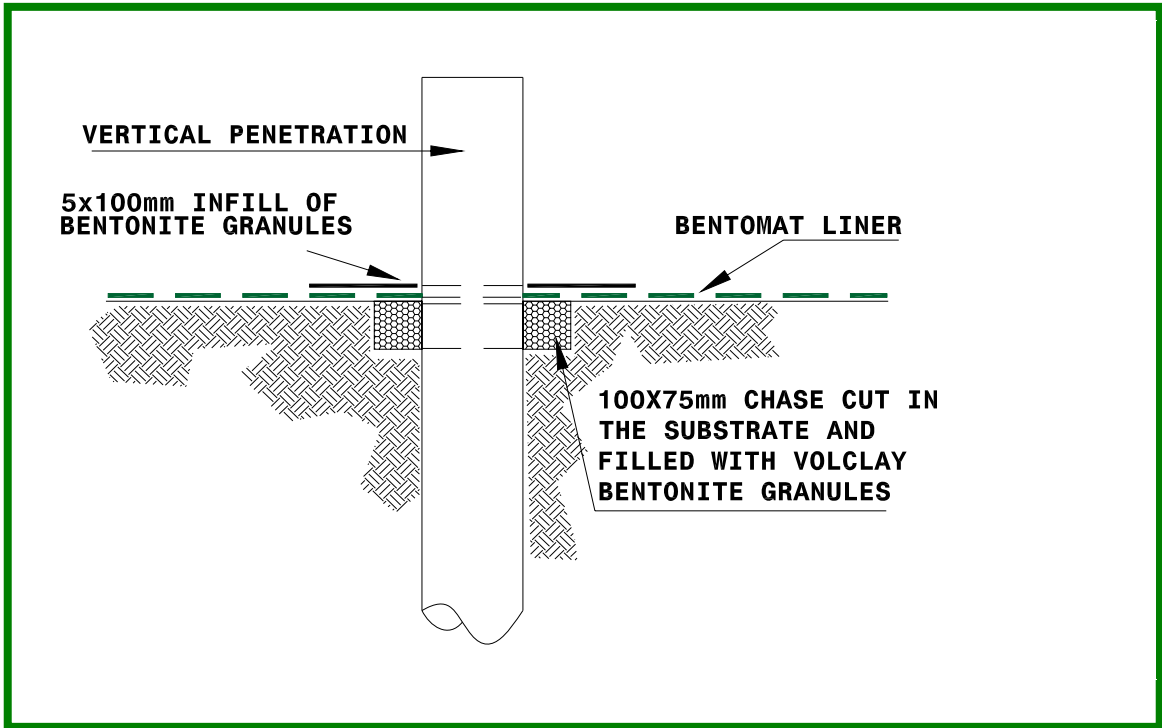
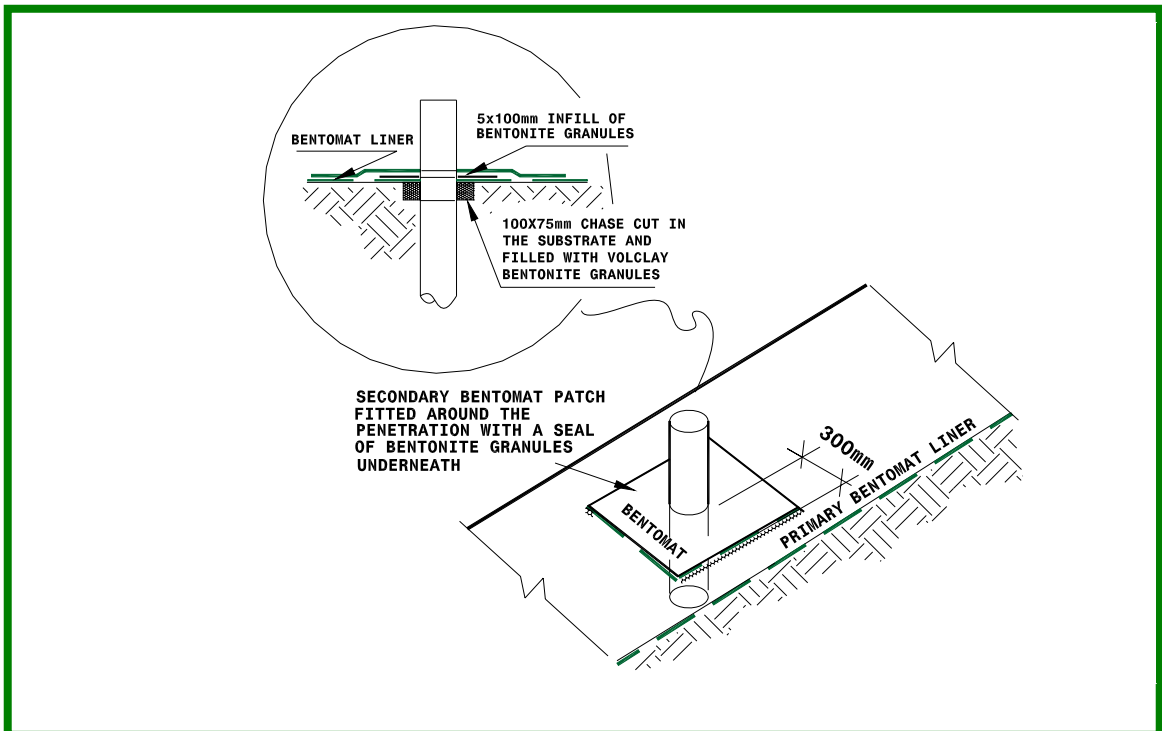

Figure 5a. Cross-section of a vertical penetration.
Figure 5b. Isometric view of completed vertical penetration.
- 8.5 Vertical penetrations are prepared by notching into the subgrade as shown in Figure 5a. The penetration is completed with two separate pieces of GCL as shown in Figure 5b. A secondary collar is optional in this case.